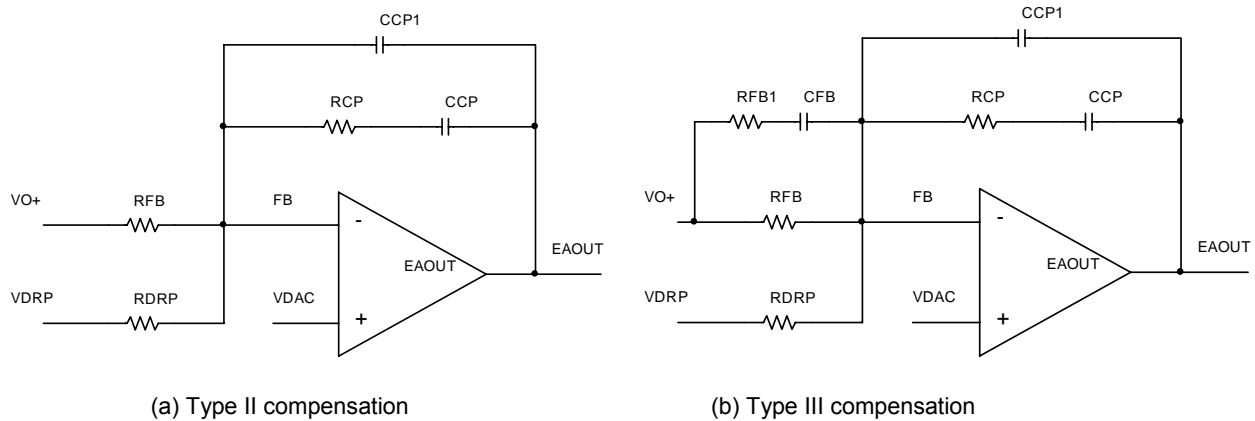

Figure 18. Voltage loop compensation network
Resistors R_{FB} and R_{DRP} are chosen according to Equations (15) and (16), and the selection of compensation types depends on the capacitors used. For the applications using Electrolytic, Polymer or AL-Polymer capacitors, type II compensation shown in Figure 18 (a) is usually enough. While for the applications with only ceramic capacitors, type III compensation shown in Figure 18 (b) is preferred.
All ceramic output capacitors are used in the design, type III compensation as shown in Figure 18(b) is used here. Choose the desired crossover frequency $f_c = 80$ kHz and determine R_{CP} and C_{CP} :